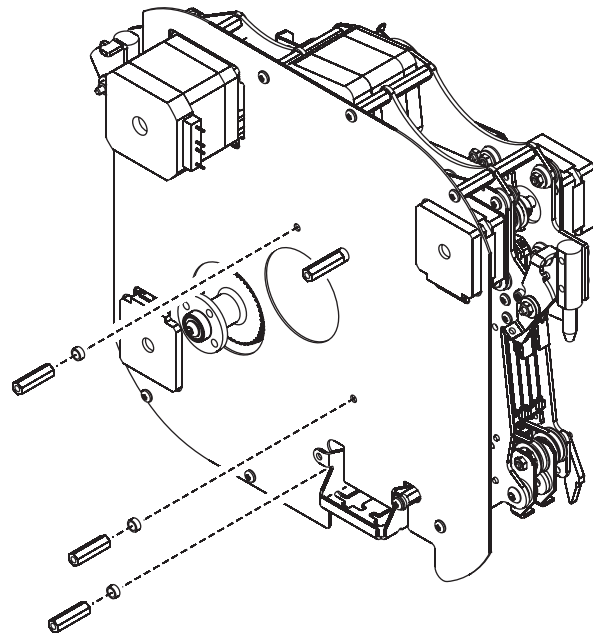

Figure 23
28. See Figure 23. Inserting 3 x spacers (P/N 08261011), install the remaining three of the ten male/female pillars (P/N 08053814) supplied in the kit, using a 5.5 mm open-ended wrench to hold the pillars on the other side of the spill limiter plate.